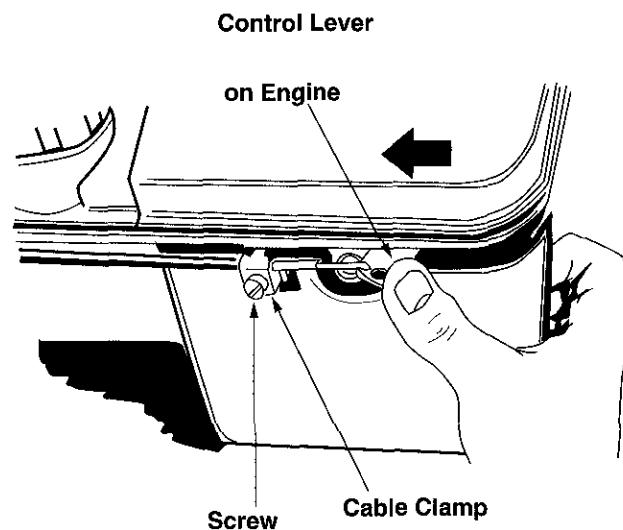

Figure 10
- Remove the screw shown in Figure 10. Remove the cable clamp from the cable.